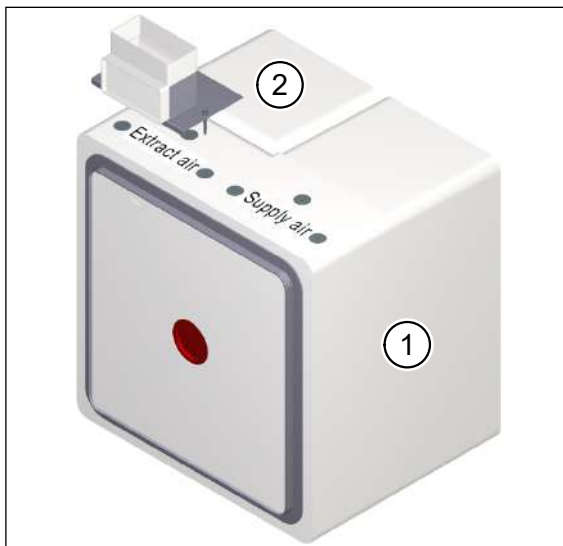
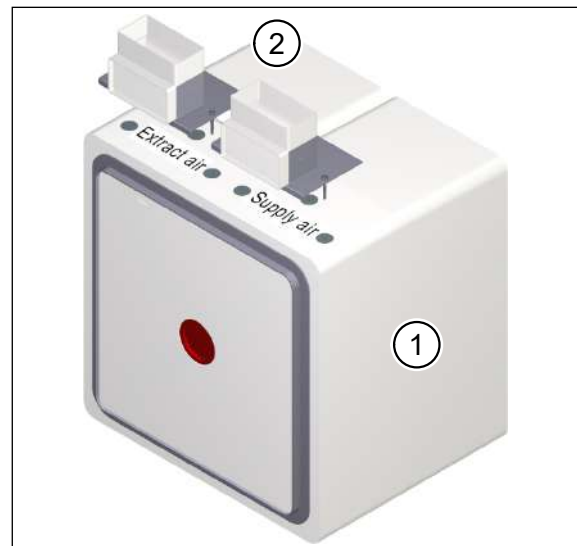

Fig. 1: Installation kit M-WRG-M/MB-FK1 with optional filler piece M-WRG-M/Fü
Fig. 2: Installation kit M-WRG-M/MB-FK2 with optional filler piece M-WRG-M/Fü
- M-WRG-M/MB-FK1 with one 110 x 54 mm flat ductwork connection for extract air **or** supply air (see Fig. 1)
- M-WRG-M/MB-FK2 with two 110 x 54 mm flat ductwork connections for extract air **and** supply air (see Fig. 2)
In new builds, if a complete wall aperture is planned for the installation kit or if a complete wall breakthrough is planned for a retrofit, the optional filler piece M-WRG-M/Fü (item 2 in Fig. 1 and Fig. 2) can be used to pack out the wall.